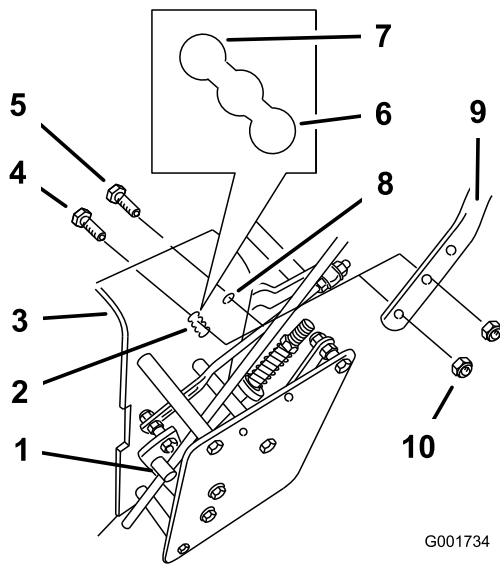

**Figure 17**
1. Using the Height-of-Cut Chart, adjust the caster spacers to match with the axle hole selected (Figure 17).
2. Remove the latch pin, slide the caster from the support, and change the spacers (Figure 17).
3. Install the caster in the support and insert the latch pin (Figure 17).